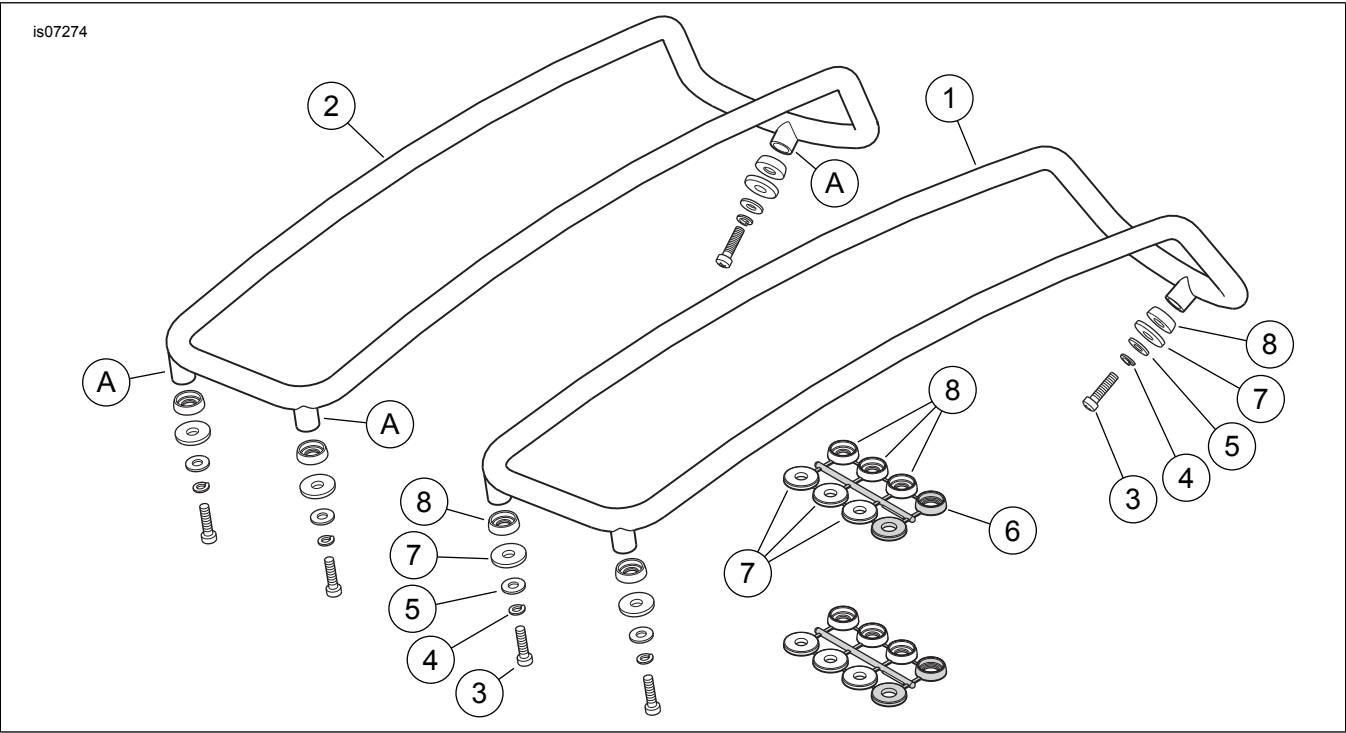

Figure 1. Service Parts, Touring Saddlebag Lid Rail Kit
See Figure 1 and Table 1.
2. See Figure 1. Place the correct trim rail (1 or 2) in the approximate mounting position on the saddlebag lid.
3. Place a piece of 51 mm (2 in) wide masking tape on the saddlebag lid, under each of the three trim rail mounting bosses (A).
4. Cut the three **same-size** mounting pads (8) and washers (7) from the mounting pad and washer set (6).